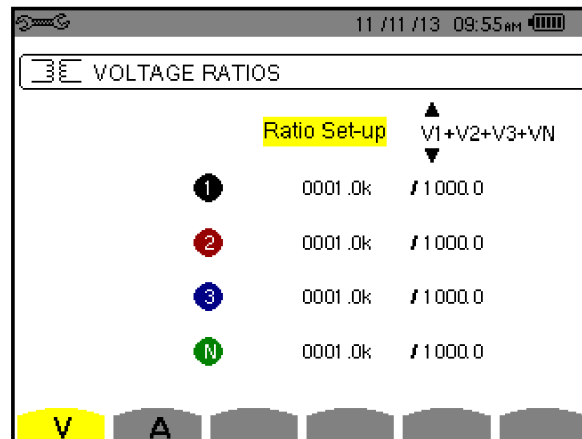

Figure 3-13
- V1+V2+V3+VN**: each channel and the neutral has a different ratio. You are prompted to enter a separate ratio for each channel (1, 2, and 3) and the neutral (N) as shown in Figure 3-13.